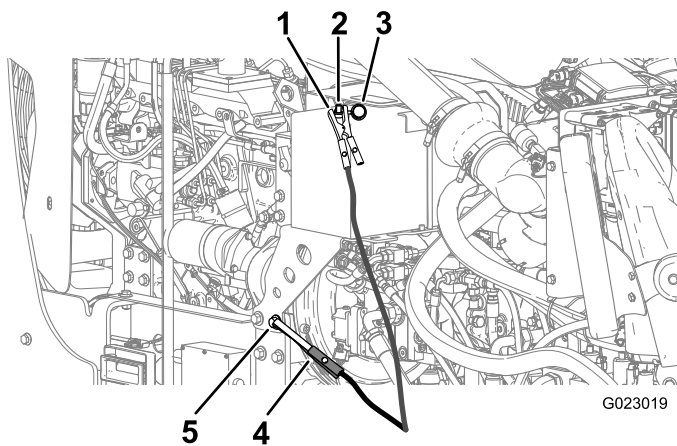

Figure 132
6. Remove the cover from the jump post (Figure 132).
7. Connect the positive (+) jumper cable to the jump post (Figure 132).
8. Connect the negative (-) jumper cable to a ground point, such as an unpainted bolt or chassis member (Figure 132).
10. When the engine starts, have the other person disconnect the negative (-) jumper cable from the frame and then disconnect the positive (+) jumper cable (Figure 132).